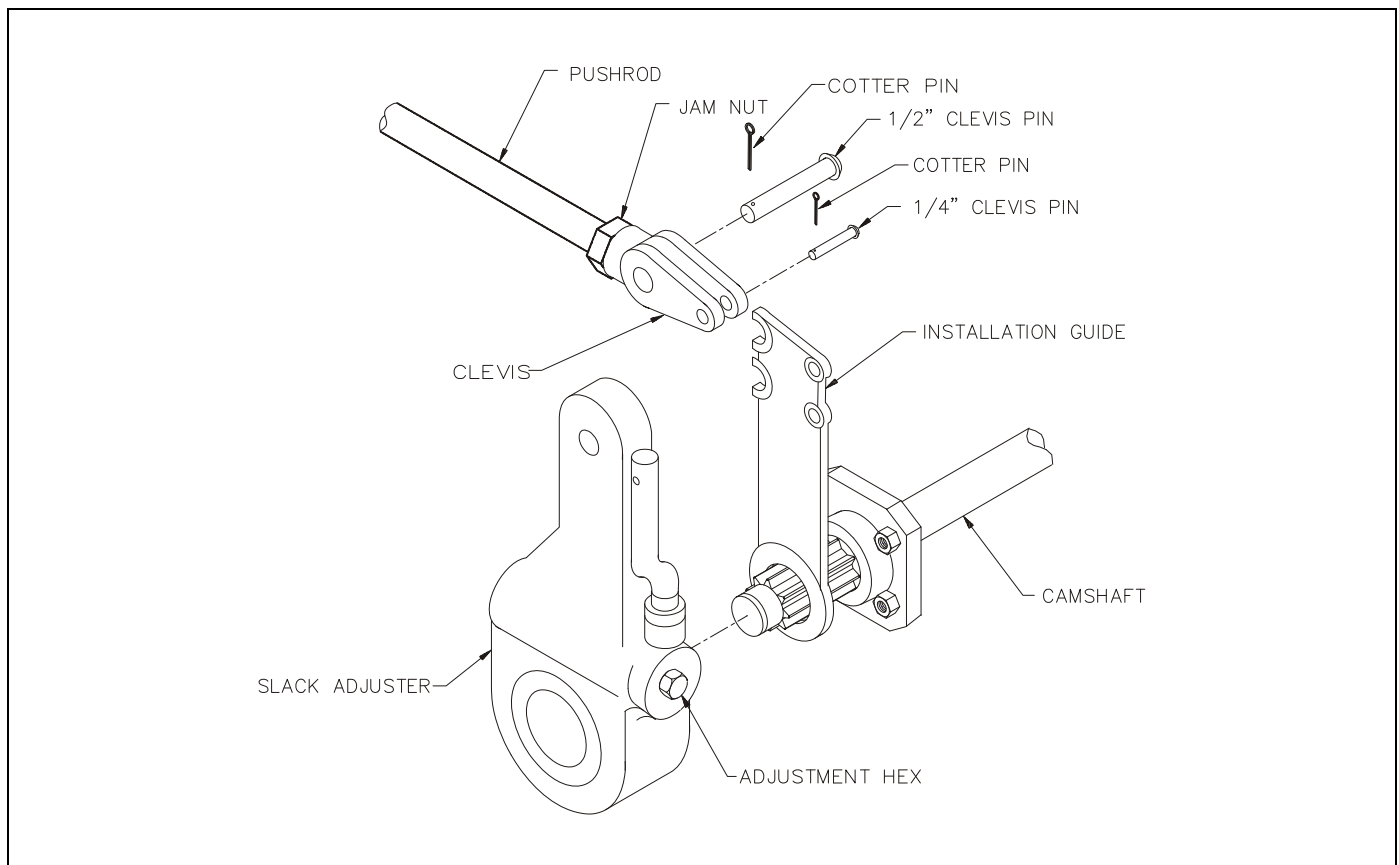

Figure 4-11: Slack Adjuster
4. Disconnect the slack adjuster from the connecting rod by removing the clevis pin (See Figure 4-11.)
3. Remount the brake unit on the axle brackets and reconnect the air service hoses and the slack adjuster connecting rod (See Figure 4-11.)
Operational Check (See Figure 4-11)
Replacing Slack Adjuster (See Figure 4-11)